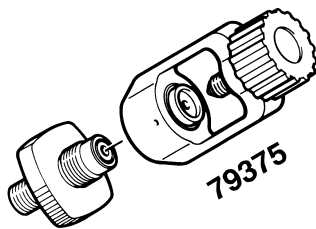

Abb. 16 International filling connector
- Air bottles with international filling connector can be connected with filling adaptor (PN 79375) to the German filling connector (see Abb. 16).